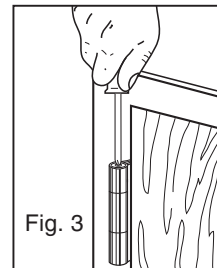

Fig. 3
**Install Locking Safety Screw (Fig 3)**